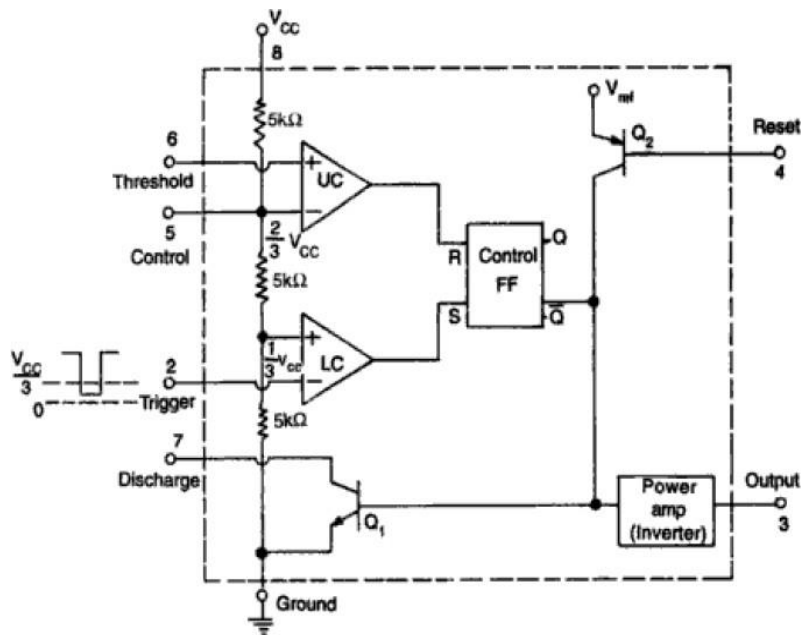

Fig. 8.2 Functional diagram of 555 timer
- Figure 8.2 gives the functional diagram for 555 IC timer.
- Referring to Figure 8.2, 3 5KΩ internal resistors act as voltage divider, providing bias voltage of $\frac{2}{3} V_{cc}$ to the upper comparator (UC), and $\frac{1}{3} V_{cc}$ to the lower comparator (LC) where V_{cc} is the supply voltage.
- In the stand by(stable) state, the output Q of control filp-flop(FF) is high.